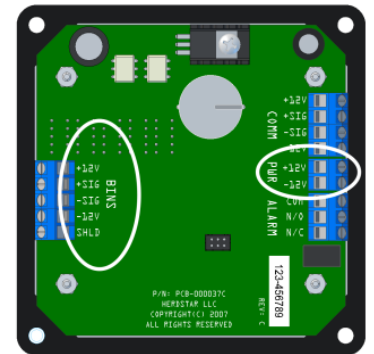

Figure 9: Insert wires in appropriate terminal block.
31. Insert the wires into the terminal block where RED is +12V, GREEN is +SIG, WHITE is -SIG and BLACK is -12V. (Figure 9)